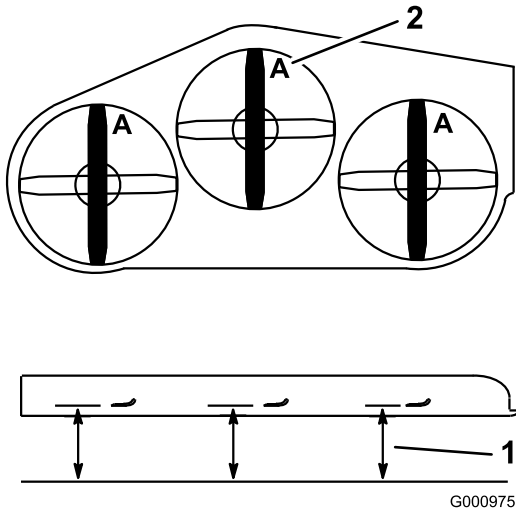

Figure 95
3. Rotate the blades until the ends face forward and backward (Figure 95). Measure from a level surface to the cutting edge, position A, of the blades (Figure 95). Note this dimension.